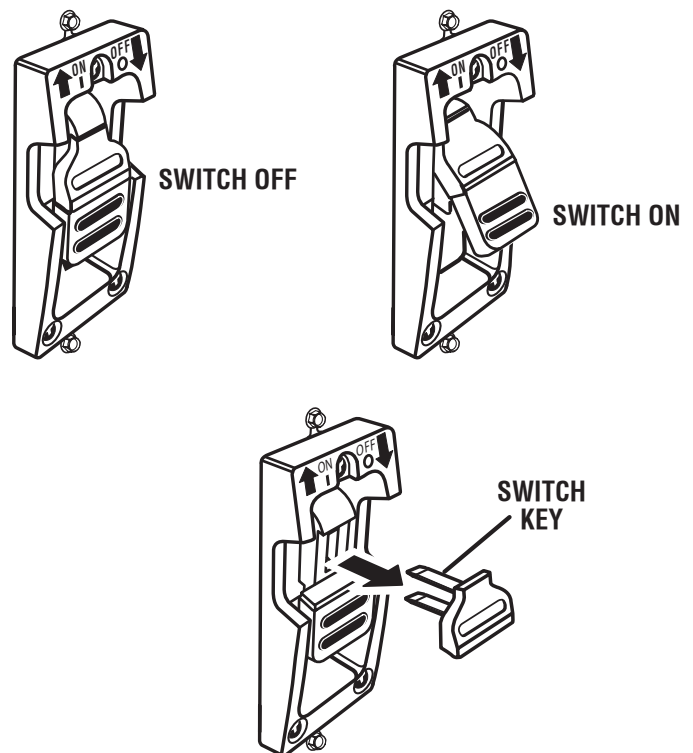

Fig. 36
- NOTE:** To prevent unauthorized use, remove the switch key as shown in figure 36.